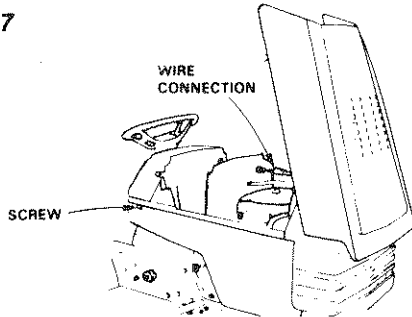

FIGURE 38
- Lift hood. Disconnect headlight wiring connection (Fig. 38).
- Unscrew one screw at rear of each side panel (Fig. 38).